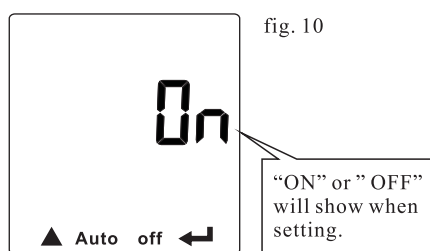

fig. 10
4.6.1 At the power off stage, Press “⏻” button until LCD showed setup interface, as fig. 10 showed. In this time LCD display “▲”, “◀”, [Auto off] and blinking [ON] (or OFF).